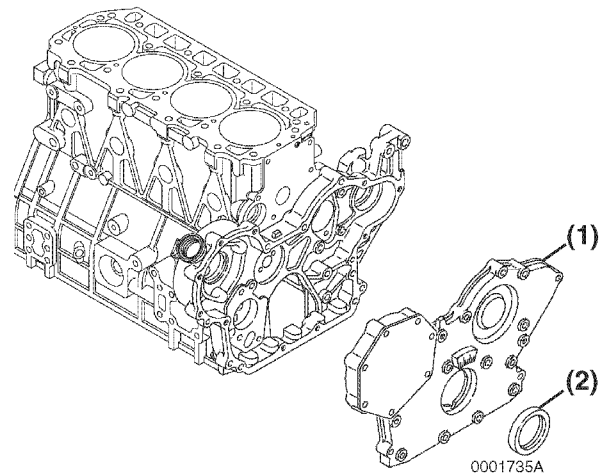

Figure 6-108
- Remove the seal (Figure 6-108, (2)) from the cover (Figure 6-108, (1)).
- Apply a continuous bead of ThreeBond Liquid Gasket No. 1212, Yanmar Part No. 977770-01212 to the outside diameter of a new oil seal (Figure 6-108, (2)), and install in the gear case cover. Apply lithium grease to the lip of the seal.